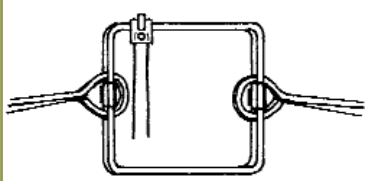

Figure OT1a: Moving the trigger to one side of a bodygrip trap increases the chance an otter can get through
- Consider using a “side-parallel” position (Figure OT1a) for the trigger wires on beaver bodygrip traps. Also consider the use of tension-adjustable triggers, using two “side-parallel” triggers (one on each side), and two-way triggers only (those that don’t spring when pushed sideways).